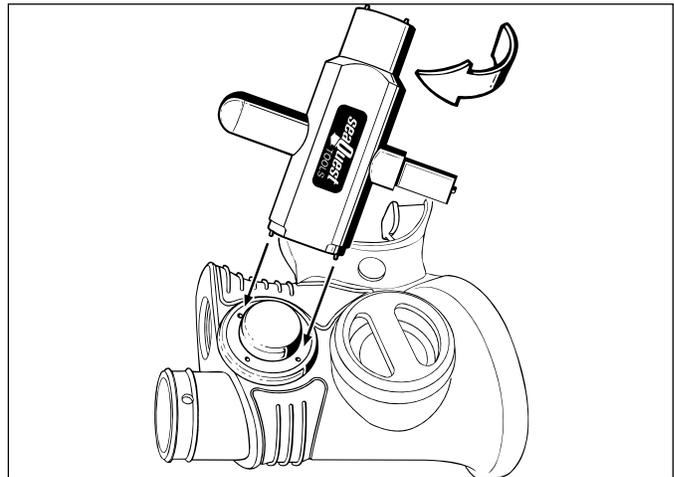

Figure 18
1.3.19 Hold these parts together, and position them centered directly above the inflator spring and valve core, so that the spring mates over the tab of the inflator button. Press the button and bezel straight down over the spring with thumb and forefinger. While holding the button depressed, gently thread the bezel clockwise by hand into the body until lightly snug. Apply the pins on the large end of the Air Source T-Tool (P/N 42314) to the bezel. While holding the tool securely engaged, turn the bezel clockwise until it is flush with the surface of the body (see Fig. 18). Do not overtighten. Closely inspect the button cover to ensure that it is seated evenly on all sides, and does not appear to be cocked or partially unseated.